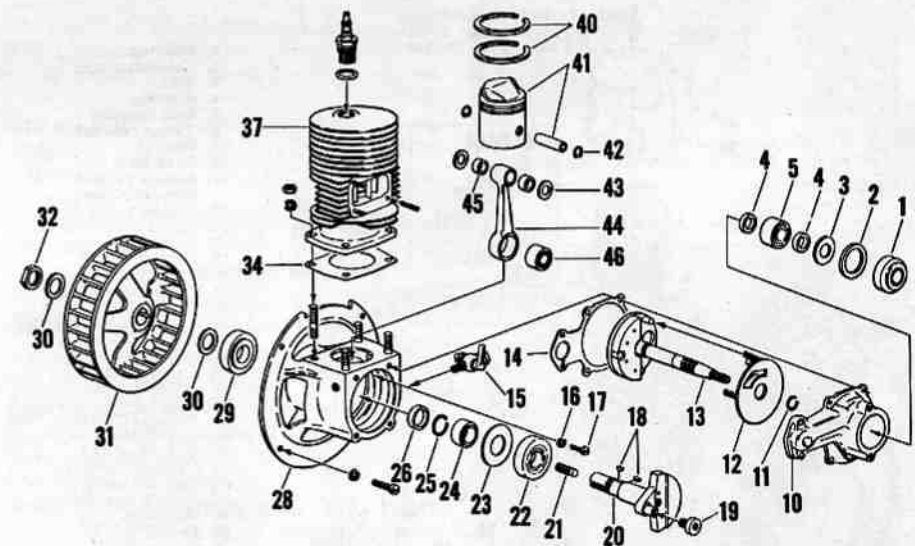

Fig. HL51—Exploded view of engine used on model 36S2 pump; engine used on 23S2 pump is of similar construction.
**CENTRIFUGAL PUMPS.** Refer to exploded view of early type centrifugal pump in Fig. HL56; for later type pumps, refer to Fig. HL31 and HL32 in preceding Homelite section on model 251 engine. The pump must be disassembled and the impeller unscrewed from stud (21—Fig. HL51 or 39—Fig. HL52) in end of engine crankshaft so that the crankcase can be unbolted from pump body and crankshaft be removed from crankcase. Shims are used between impeller and end of crankshaft to maintain minimum clearance between impeller and wear plate (10—Fig. HL56); two shims are normally used. Remove shims if impeller rubs against wear plate when reassembling engine.